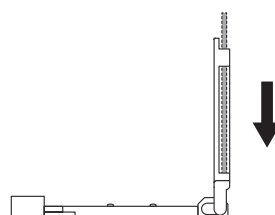
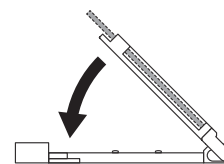

Fig. 27
Fig. 28
4. Place the SIM card into the holder (it will only fit one way, see **Fig.27**) and fold the holder back down, see **Fig.28**.